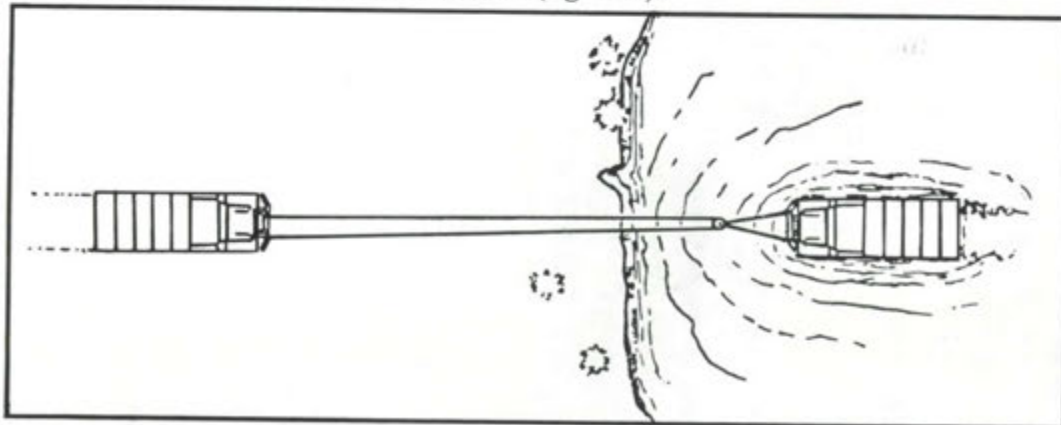

Figure 2. Winching with a similar vehicle.
b. To recover a mired cargo truck by winching, a truck of equal or greater capacity should be used to perform the winching operation. As an example, a mired $1\frac{1}{4}$ -ton cargo truck may be winched with either a $1\frac{1}{4}$ -ton or $2\frac{1}{2}$ -ton vehicle. All winch-equipped trucks are authorized a single sheave snatch block and one tow chain for rigging. A mechanical advantage is required if the resistance of the mired truck is greater than the winch capacity. The winching vehicle must be positioned in line with the mired vehicle so the correct fleet angle is obtained. The winch cable must be free-spooled from the drum and the free end of the cable attached to one of the winching vehicle's front lifting shackles or to a separate anchor. A chain sling is formed between the lifting shackles of the mired vehicle and the snatch block is attached in the apex of the sling. The loop formed in the winch cable is placed in the snatch block and power is applied to the winch to remove the slack from the cable (figure 2).